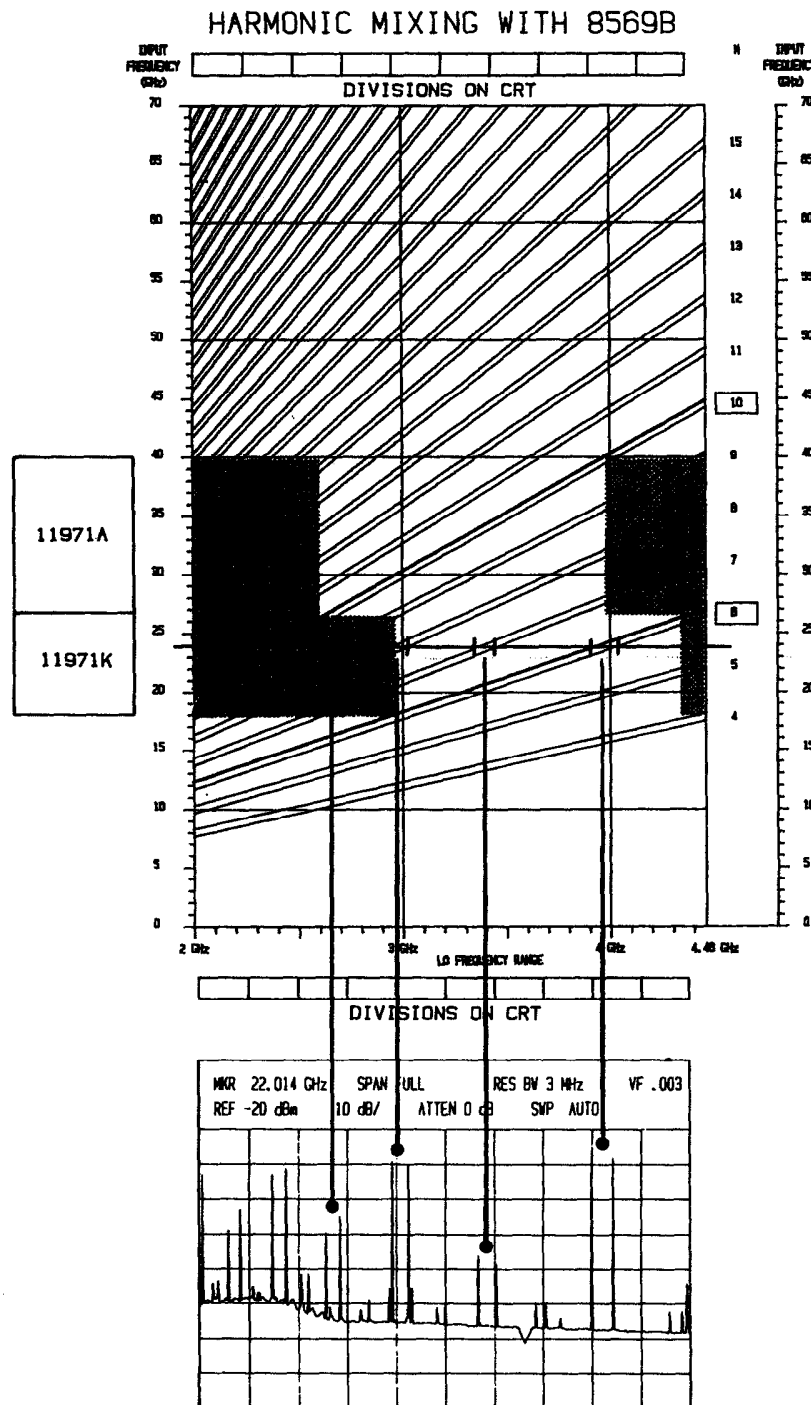
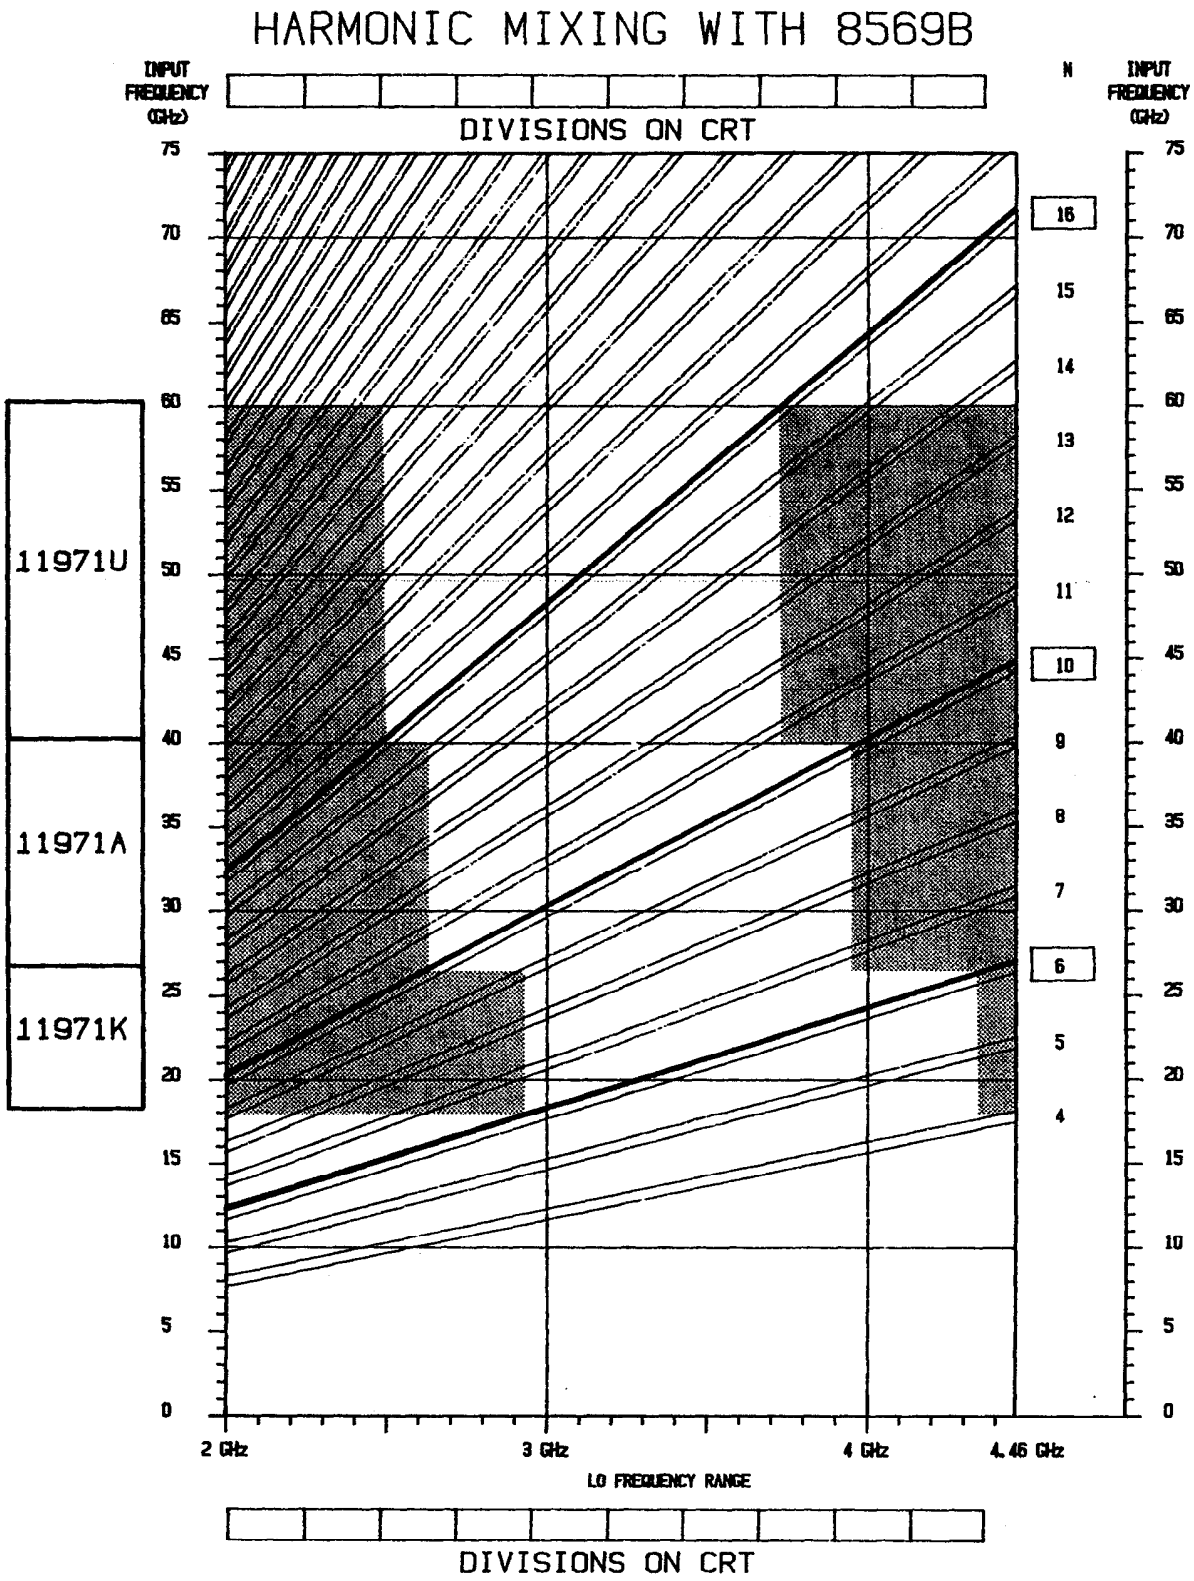

Figure 2-3. Harmonic Mixing Curves for Signal ID
Figure 2-4. Harmonic Mixing Tuning Curves for HP 8569B
Knowledge of the harmonic mixing process makes the "image frequency method" easier and faster to use. Figure 2-3 shows a typical display on the HP 8569B with a 24 GHz signal applied to the HP 11971K Mixer. A reduced version of the HP 8569B Spectrum Analyzer harmonic mixing tuning curves (shown in Figures 2-4 and 2-5) is included in Figure 2-3 to aid in identifying the signals present on the display. HP 11971K Mixers are factory-calibrated for the 6+ mixing mode, which gives them a corresponding LO frequency range of 2.95 to 4.36 GHz. By reference to the tuning curves in Figures 2-4 and 2-5, it can be determined that the signals displayed in approximately the first four divisions of the display are the result of the RF mixing with LO frequencies of less than 3 GHz. Because these signals are obviously not the desired responses, there is no need to investigate them further. The large response pair near the fourth division of the CRT can be seen to be the result of the RF input mixing with the 8th harmonic of the LO. The desired 6+ harmonic response is the large response pair near the 8th division of the CRT.
The shaded areas on the chart in Figures 2-4 and 2-5 represent the regions for each HP 11971 Series Mixer where the responses are imprecise, a result of the RF mixing with LO frequencies outside the LO range of the mixer. Any signal falling inside a shaded area can be ignored.
2. Using the chart in Figures 2-4 or 2-5, determine the limits on the display within which the desired image pair can appear.